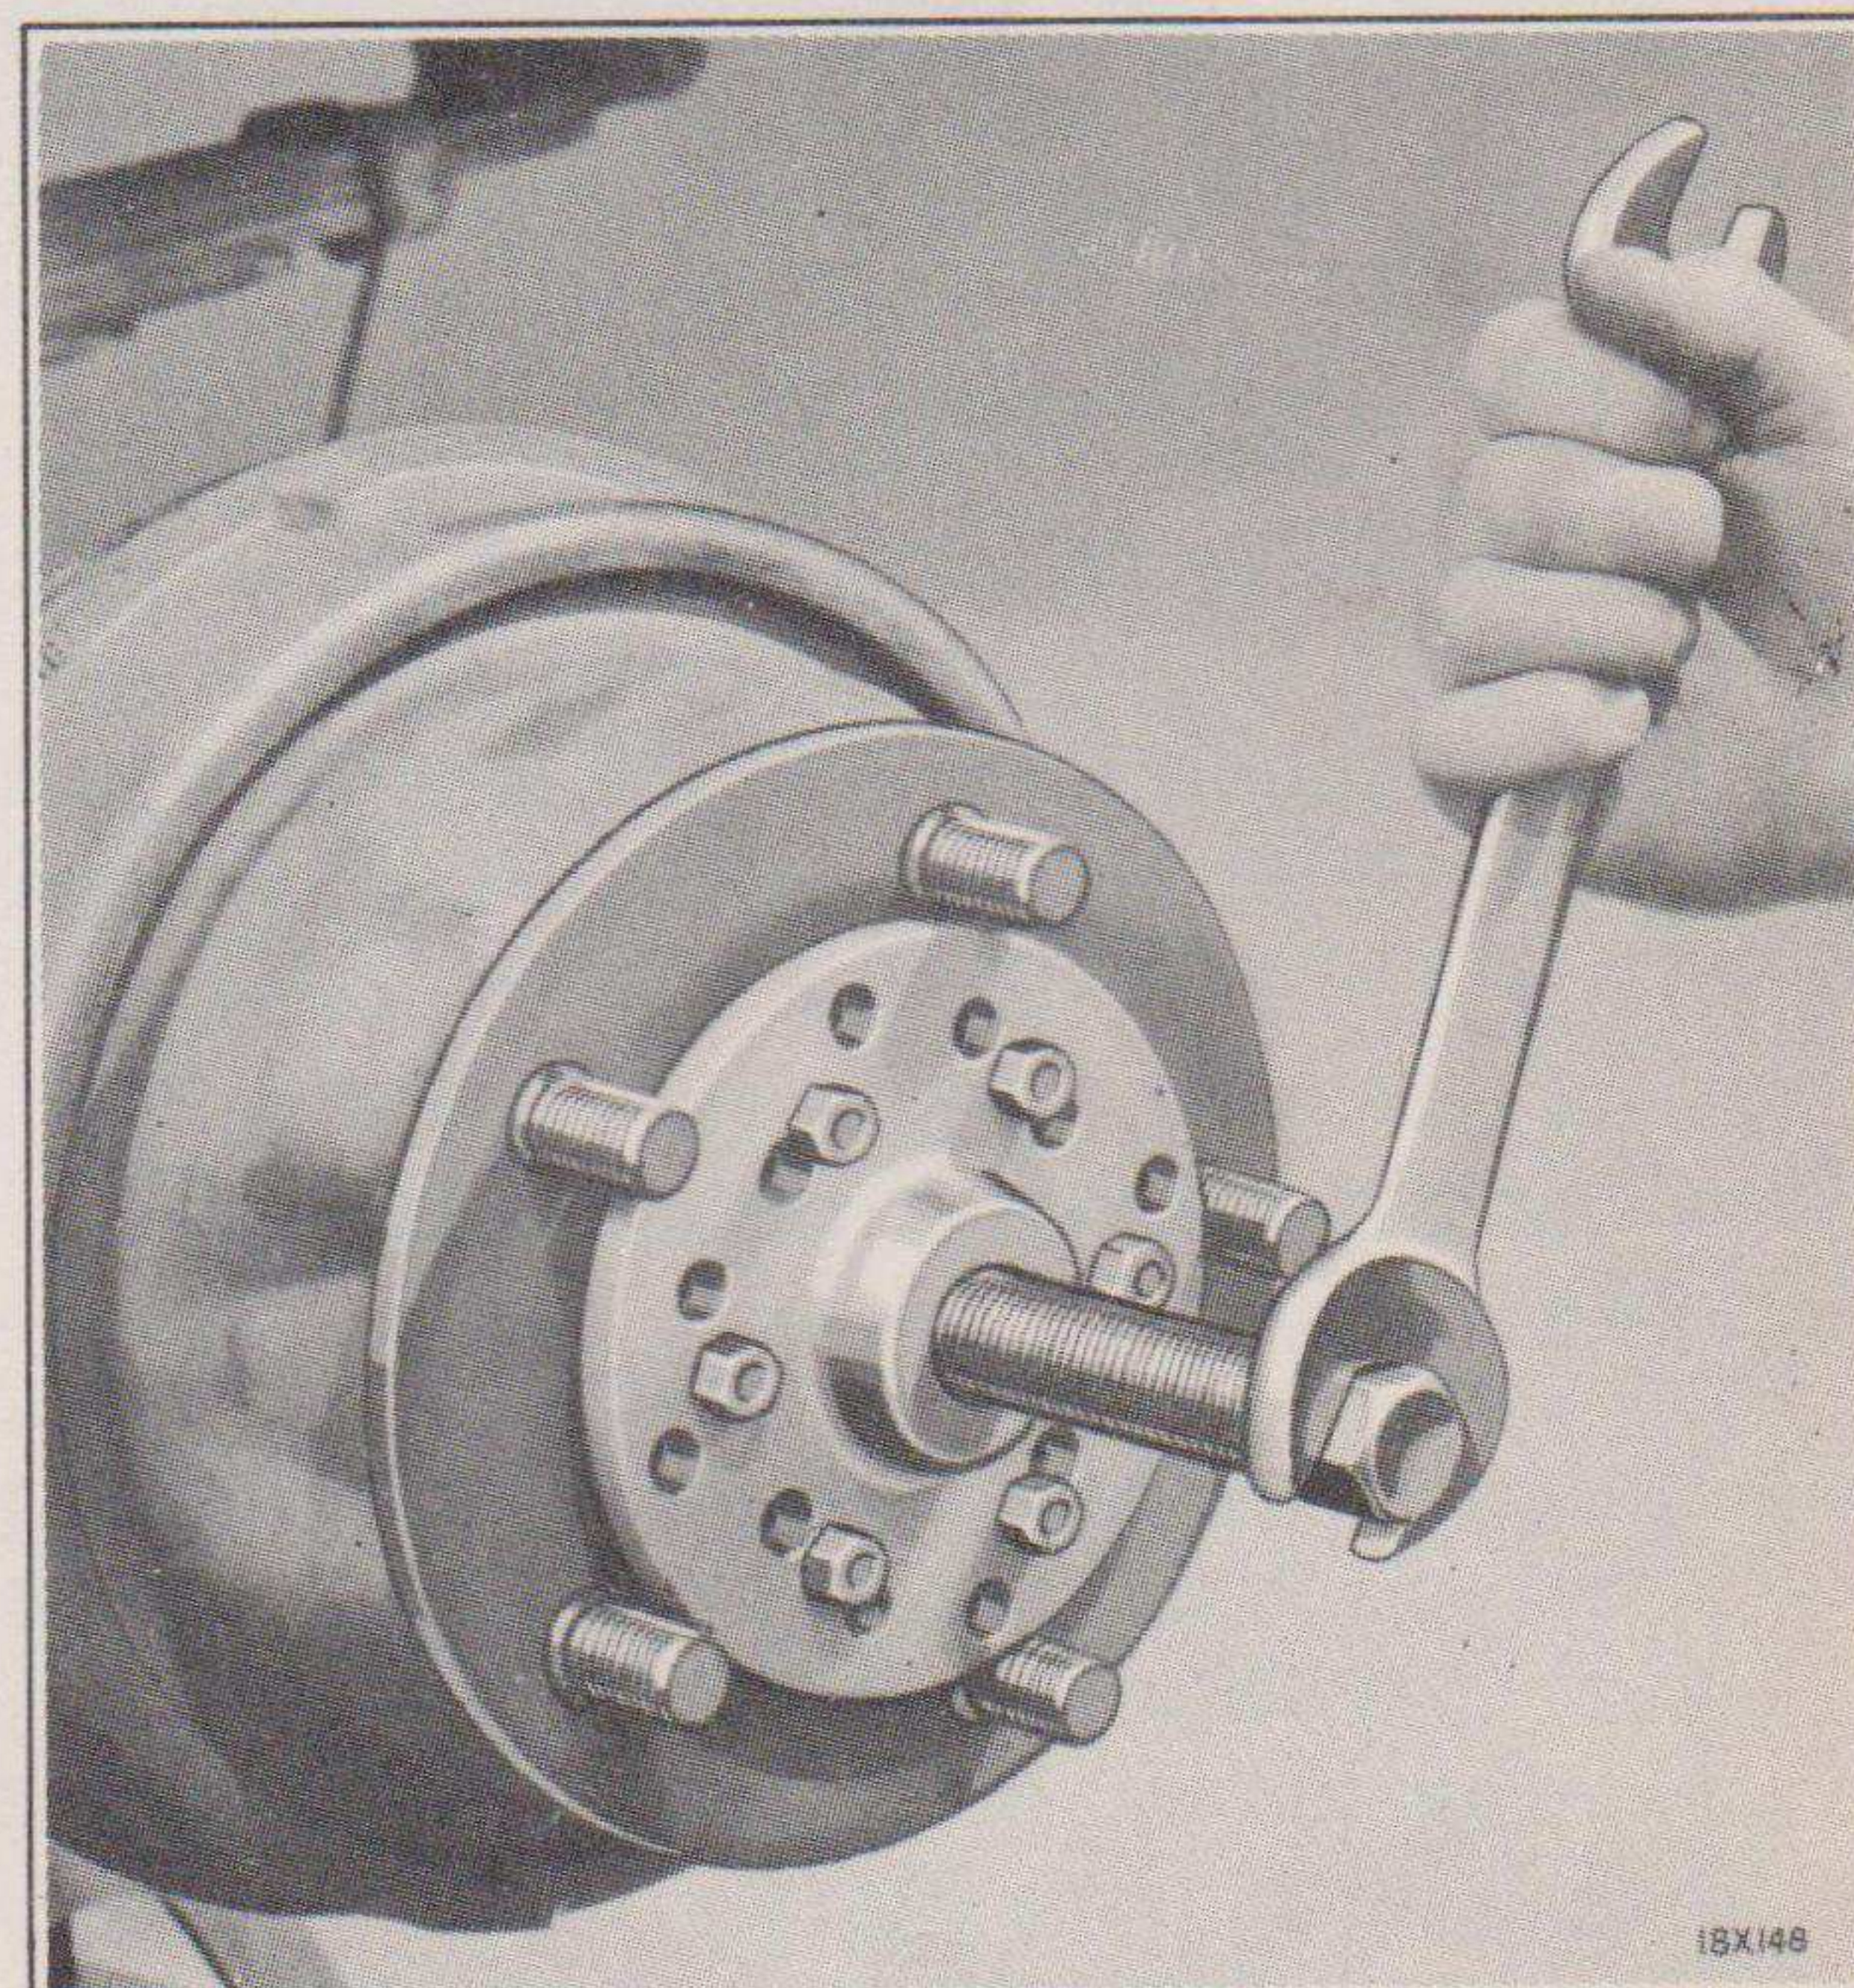

Fig. 36—Removing Wheel Hub with Puller (Tool DD-423)
- (h) Pull off the hub and brake drum assembly, using special tool DD-423, as shown in Fig. 36, and then remove the outer bearing cone and rollers.